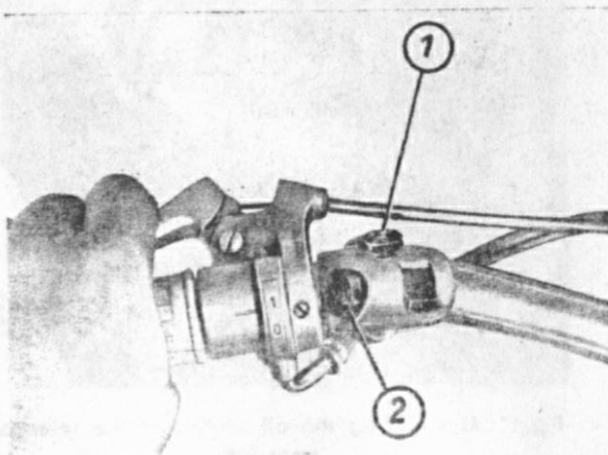

Fig. 14: Engaging the 1st speed
1. Declutch, engage 1st speed (Fig. 14).
5. Press down short circuit button (Fig. 14/1).